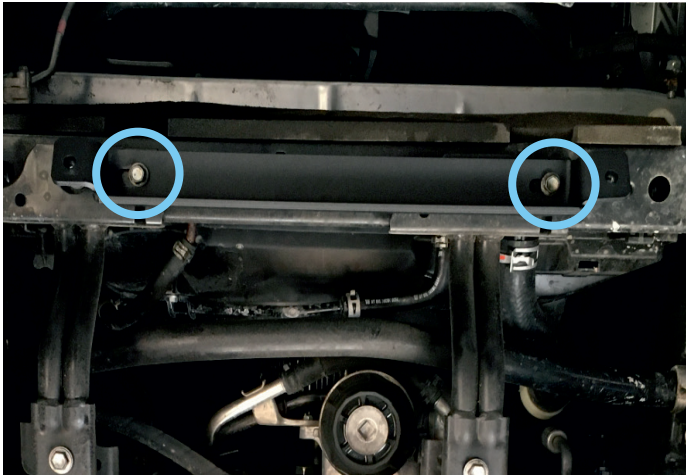

Fig.1
1. Install the front mounting bracket (item 2) to the vehicle using M8x30 bolts (item A), and M8 flat washers (item B) as shown in Fig.1.